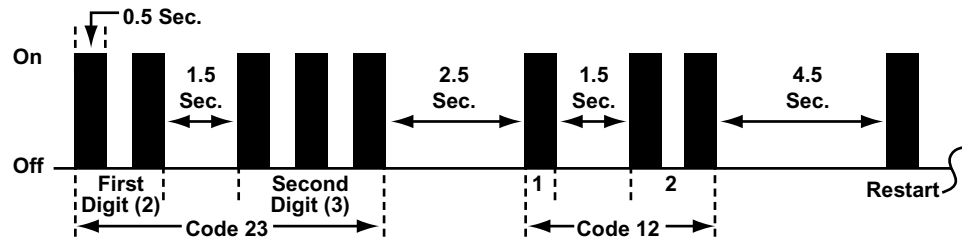

Figure 7-16 Engine Code Type 09
- Type 09 engine codes, see Figure 7-16 and Table 7-2 on page 60